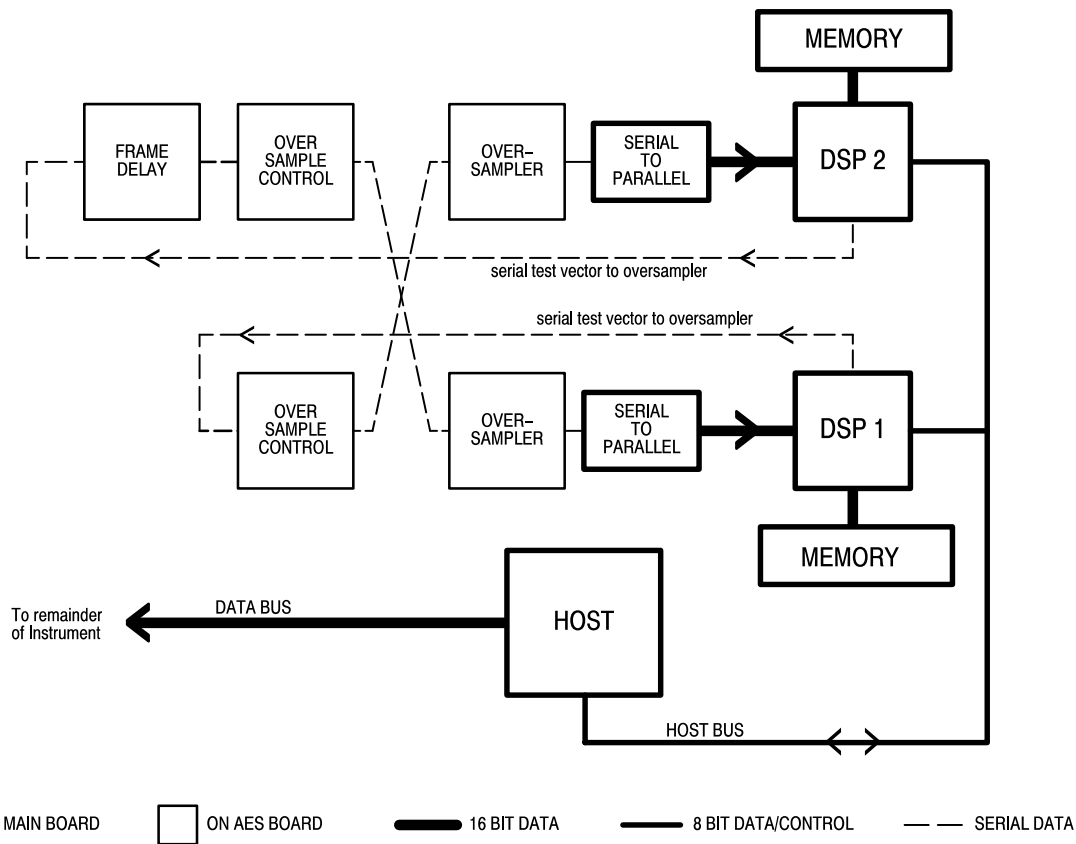

Figure 5-9: The cross channel mode tests
- Cross channel tests: DSP1 Cross Channel and DSP2 Cross Channel, Figure 5-9.